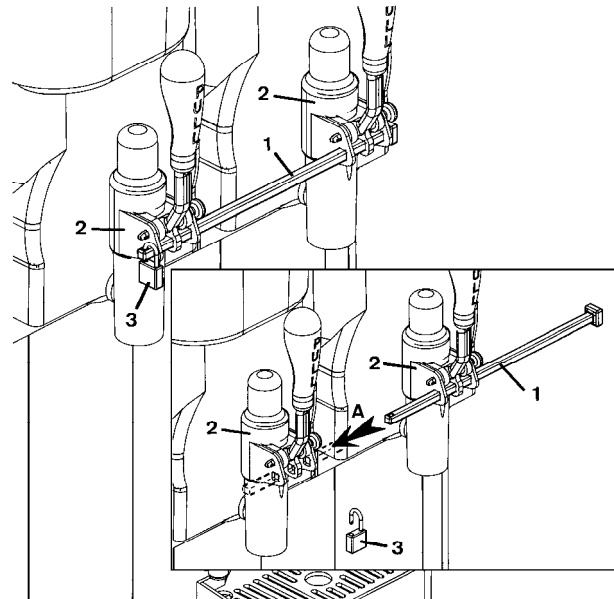

Figure 3
The machines come from factory with a handle locking system (**fig 3**) (locker (3) not included).